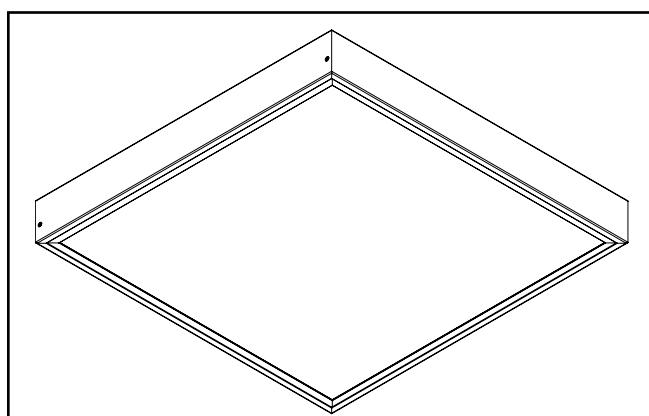

Figure 16.
2. Reinstall the removed frame piece with the retained screws to complete the installation. (Figure 16.)